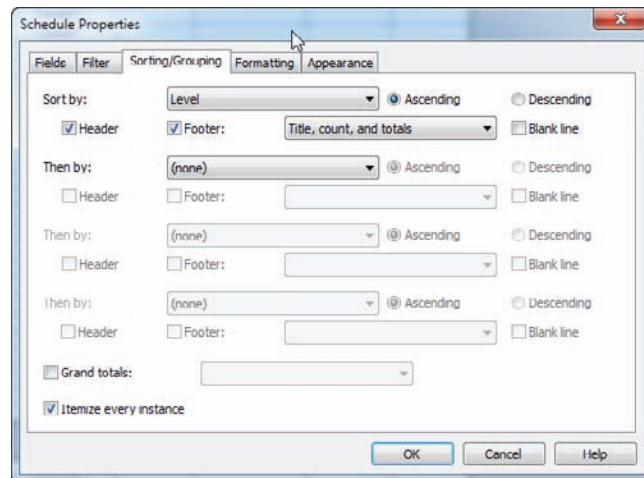

FIGURE 11.7 Sorting the schedule by level
6. Select Title, Count, And Totals from the Sort By drop-down list (see Figure 11.7).